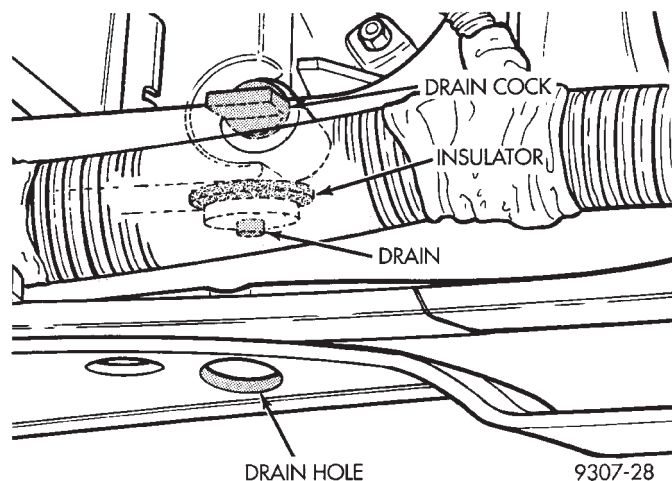

Fig. 1 Radiator Draincock Location
(1) Open radiator drain located at the lower right side of radiator (Fig. 1). Drain takes place through the isolator. **Do Not Use pliers to open draincock.**
(2) Remove coolant pressure bottle cap and thermostat bleed valve this will allow radiator drain.
(3) Remove the cylinder block drain plug(s) located behind each exhaust manifolds.